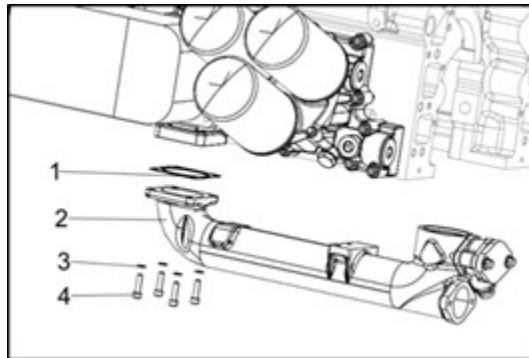

Figure 175
7. Install the water inlet pipe, fit the gasket (Fig 175, item 1) firstly, tighten the fixed bolts (Fig 175, item 4) with the washer (Fig 175, item 3). Torque bolts to 37 N·m.